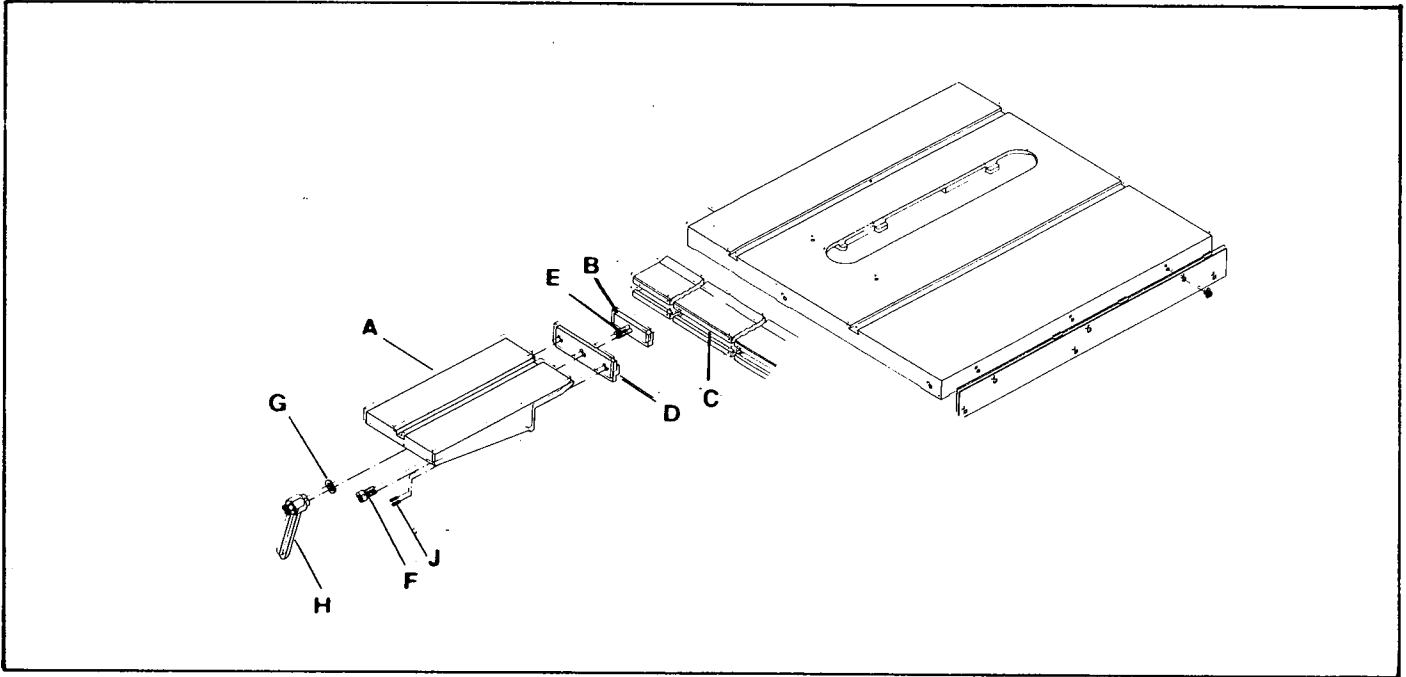

Fig. 74
A miter gage support extension (A) Fig. 74, is supplied with your RT-31 10" Panel Scoring Saw for increasing the distance in front of the saw table to support the miter gage when cross-cutting large workpieces. To assemble the support extension, proceed as follows:
1. Insert clamp (B) Fig. 74, into groove (C) of guide rail.
2. Fasten extension (A) Fig. 74, to bracket (D) using the two 30mm hex socket head cap screws (F)
3. Assemble extension (A) and bracket (D) to the guide rail by inserting the screw (E) through the centerhole in the bracket (D) and fasten in place using the flat washer (G) and clamp handle (H) Fig. 74.
4. Align the miter gage slot of the extension to the miter gage slot in the table by tightening or loosening the four 16mm socket set screws (J) Fig. 74.